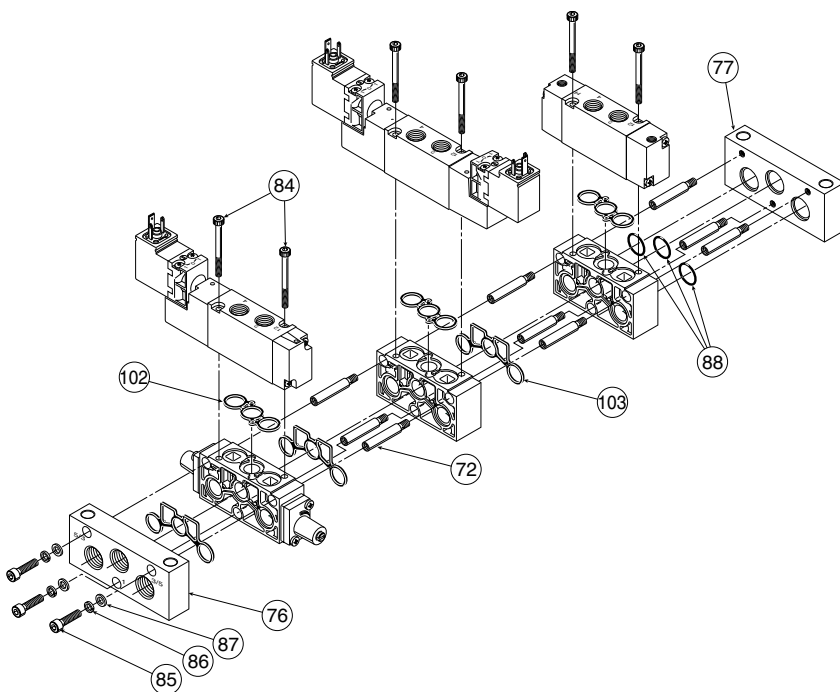

Figure 1:
2. **4-Way Valves:** (See Figure 1)